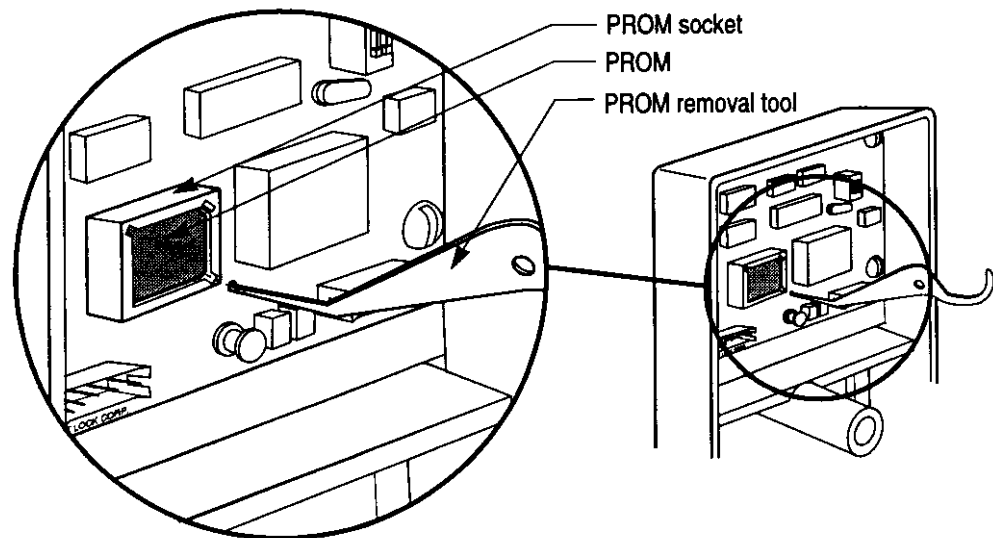

Figure 3.15 Prying on one corner of the PROM [V Series electronic lock shown]
4. Using a PROM removal tool, pry one corner of the PROM as shown in Figure 3.15. Make sure that you put the PROM removal tool hook in one of the two notched corners of the PROM socket.